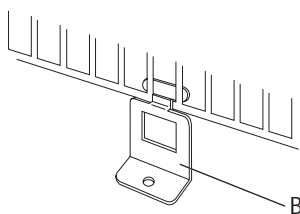

Fig. 4
2. Hang the convector on the two brackets fixed to the wall and insert metal brackets "B" into the bottom rear section of the base of the convector as indicated in figure 4, one at each end. Mark the positions for fixing these brackets to the wall. This bracket when fixed retains the base of the convector in a fixed position, preventing removal.